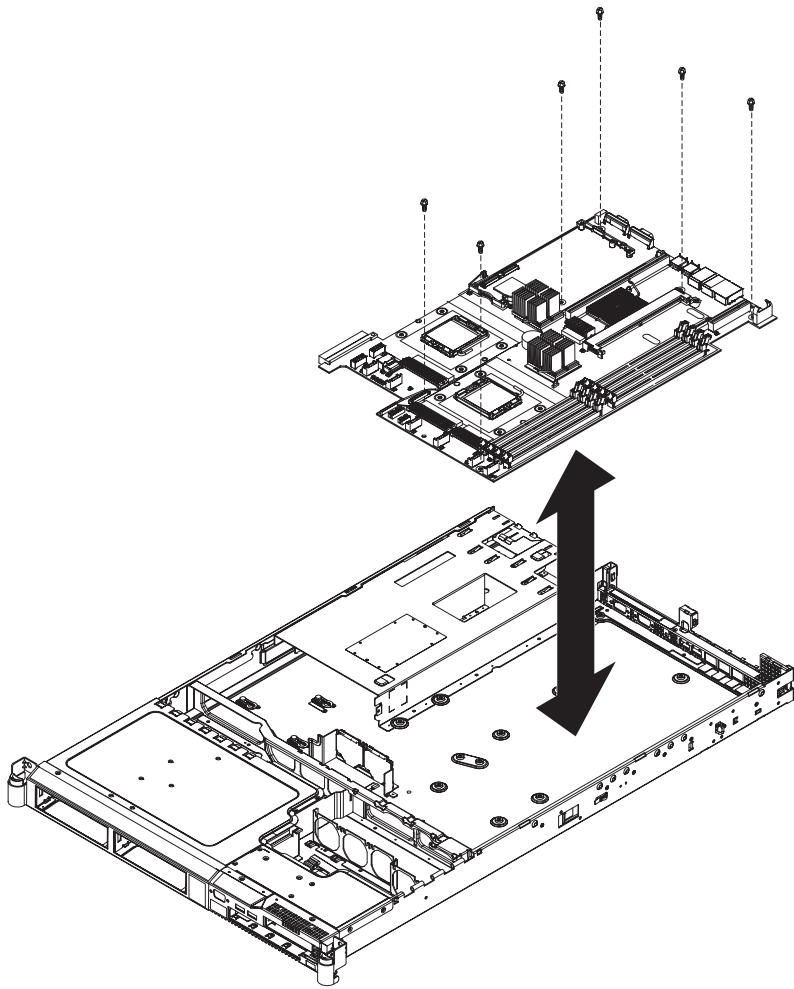

Figure 284. The placement of the screws that secure the SAN Volume Controller 2145-8G4 system board
2. Replace the six screws on the system board, as shown in Figure 284 on page 261, to secure the system board to the chassis.